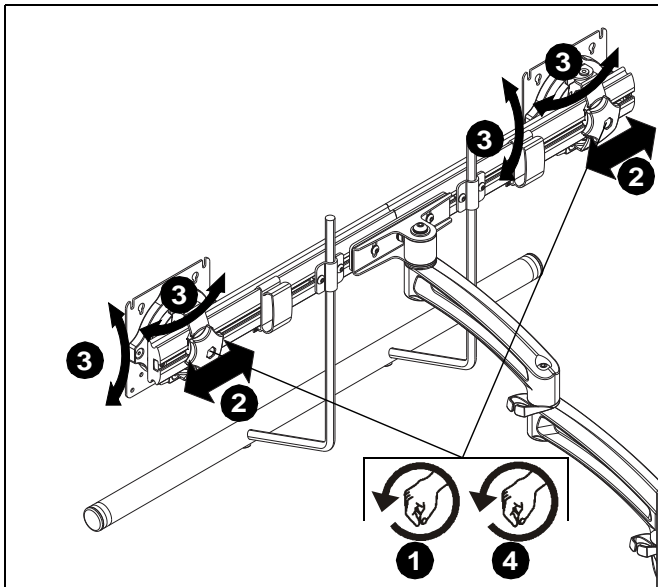

Figure 13
1. Loosen knobs securing faceplates to array. (See Figure 13)
2. Slide displays laterally on array to adjust lateral shift. (See Figure 13)
3. Adjust pitch and pivot position as desired. (See Figure 13)
4. Tighten knobs to secure faceplates in position. (See Figure 13)